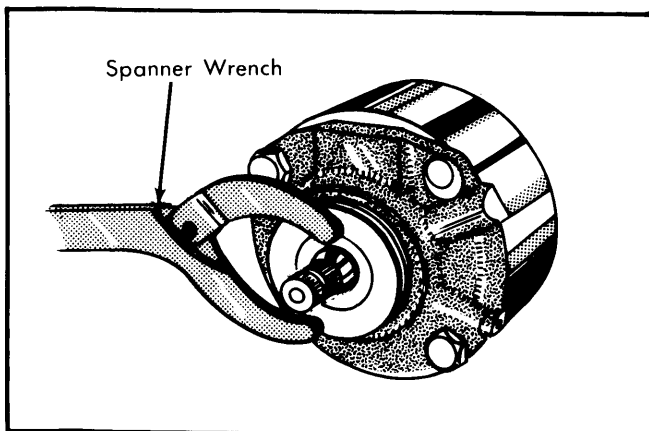

Fig. 6 Removing Bearing Insert from Bearing Cap
8) Remove bearing insert from bearing cap using spanner wrench (See Fig. 6). Remove steering worm and washer from bearing cap. Remove roller cage from steering worm, along with seal and "O" rings.